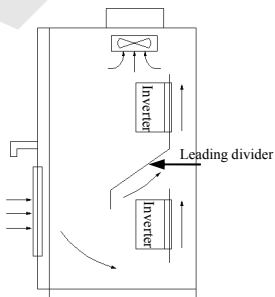

Fig.3-2 Installation of multiple inverters
- (3) When installing multiple inverters up and down, leading divider must be applied between them, see Fig. 3-2.